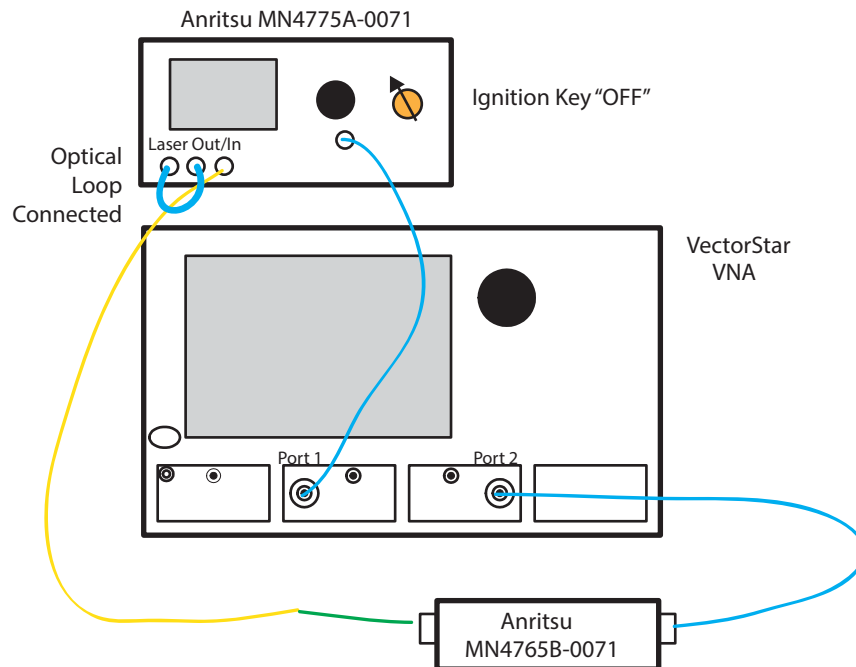

Figure 3-58. Turning Off Laser
11. Set E/O Converter Ignition key to **OFF** (see figure Figure 3-58).